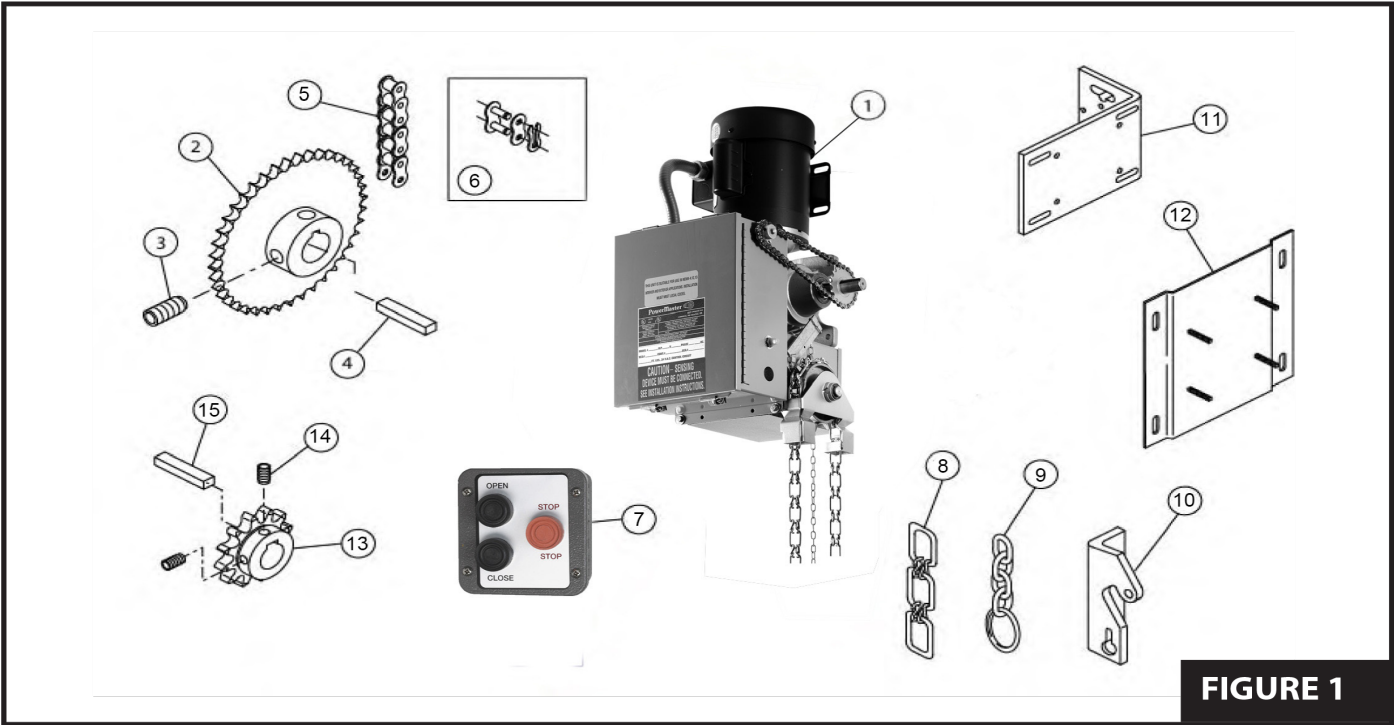

FIGURE 1
1. **Figures 2 and 3** illustrates several positions suitable for mounting the operator: Right Hand or Left Hand Wall Mount or Horizontal (shelf) Mount to the torsion shaft. For sectional doors, the MG operator must be wall mounted. For rolling steel doors, the operator must be wall mounted or hood mounted by using an optional hood mounting bracket [**Item 11**]. A wall mounting plate [**Item 12**] is also available from the factory (see **Figure 1**). The mounting plate/bracket provides for chain tension adjustment as well as aiding installation.